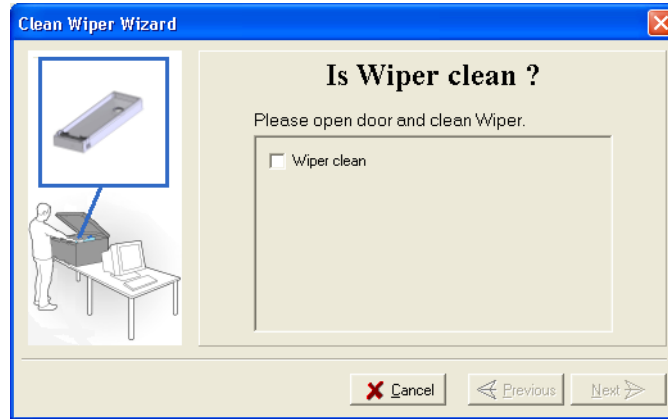

Figure 6-29: Wiper Cleaning Wizard during steps 7–10
10. In the wizard screen (see figure 6-29), confirm that the wiper blade is clean, and click **Next**.